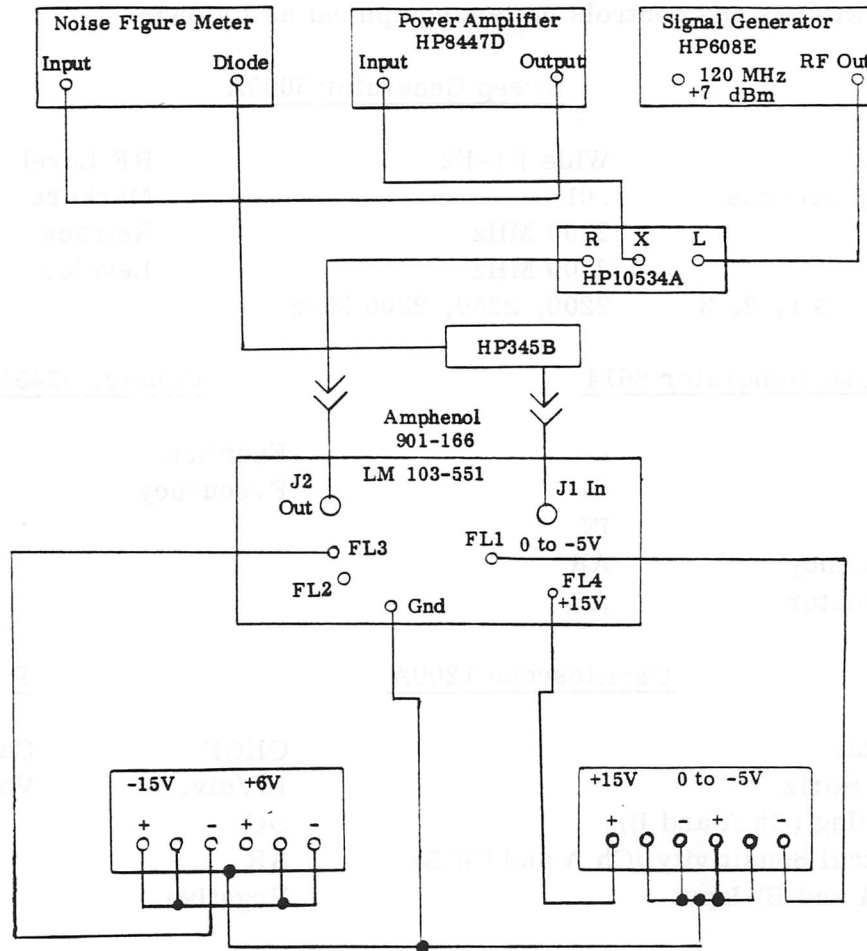

Figure 5-3. Noise Figure Test Setup
- a. Connect the test equipment as shown in Figure 5-3.